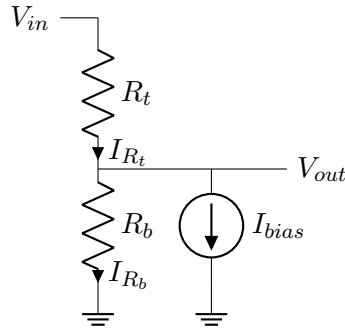

Figure 3: Voltage Divider Circuit with Loading
Using the circuit in Figure 3 results in an adjusted transfer function shown in Equation 4. Input bias current is also hard to model and can vary significantly so the simplest method of compensating for this is by reducing $R_{sum} = R_t + R_b$ while maintaining the same result for $\frac{R_b}{R_t + R_b}$.
- Why does reducing $R_{sum} = R_t + R_b$ reduce the impact of input bias current on a voltage divider circuit as shown in Figure 3?